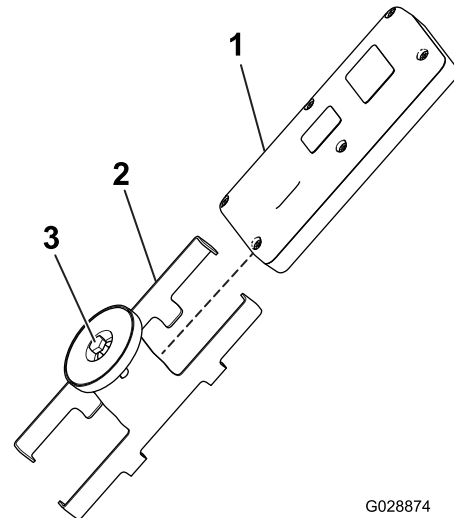

Figure 25
5. Install the handheld remote into the magnetic remote bracket, slide the halves together to secure the remote, and tighten the bolt in the magnet (Figure 25).